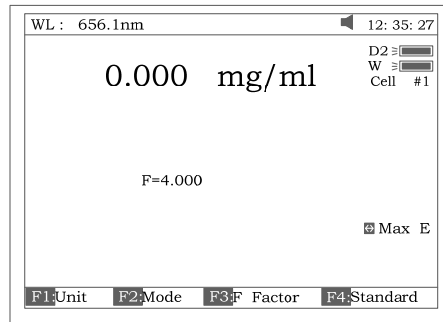

Fig 24
- 4.2 Press **[F4]** to input known Conc value, Fig 24. Then push the sample into main light path to take reading of concentration.